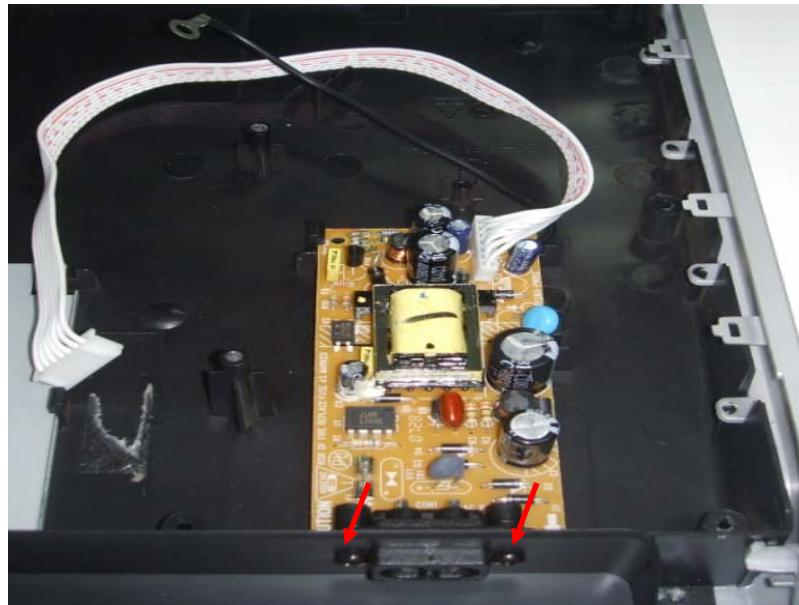

Figure 7
Step5: Dismantling power board: disconnect the 2 screws, then can remove the power board. (Figure7)